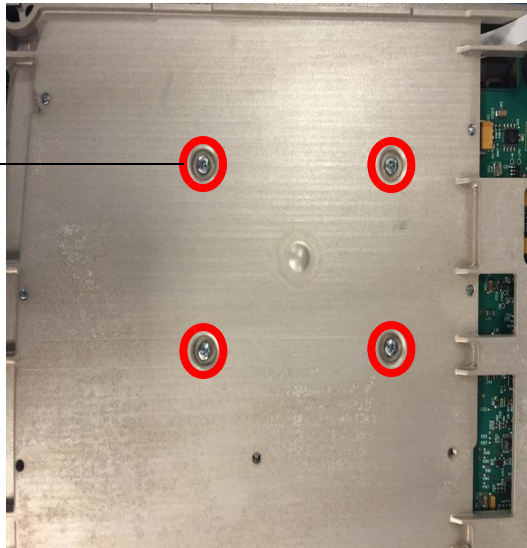

Figure 6.19 Nest Frame Removal
- 2 Flip Mid-Frame Assembly over and remove four screws securing the Nest Frame Assembly per Figure 6.19.
- 2 Tip Mid-Frame onto the side and Install Nest Frame Assembly with four screws as shown in Figure 6.19. Torque to 5.5 in-lbs.